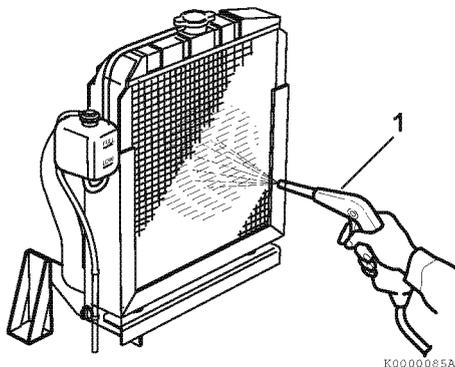

Figure 5-8
Note that a typical radiator is shown in **Figure 5-8** for illustrative purposes only.
- Blow off dirt and dust from fins and radiator with 28 psi (0.19 MPa; 2 kgf/cm²) or less of compressed air (1, **Figure 5-8**). Be careful not to damage the fins with the compressed air.